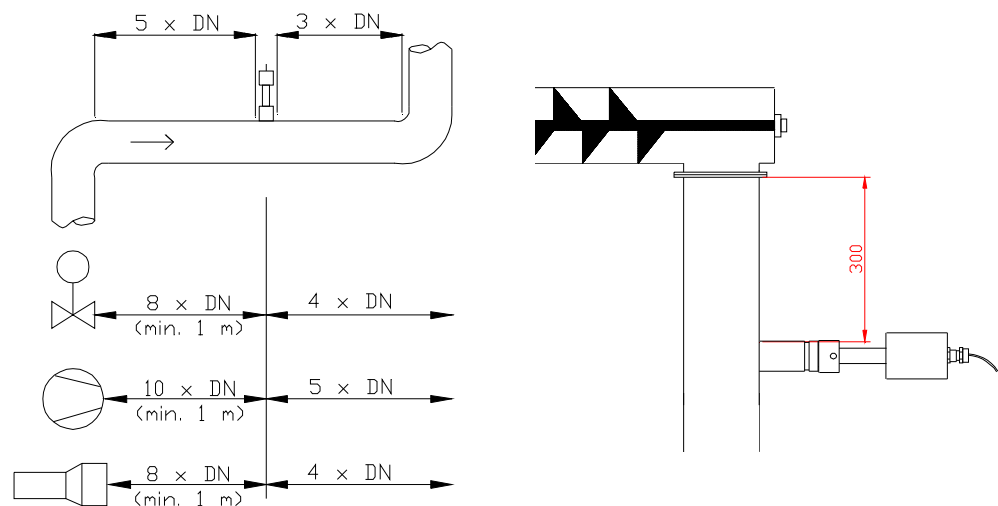

Fig. 4: Minimal distances of the sensor to duct bends and baffles.
- Follow the necessary distances of valves, bows, fans or cellular wheel sluices etc. and also other measurement devices like temperature and pressure etc. to the sensor (see fig. 4).